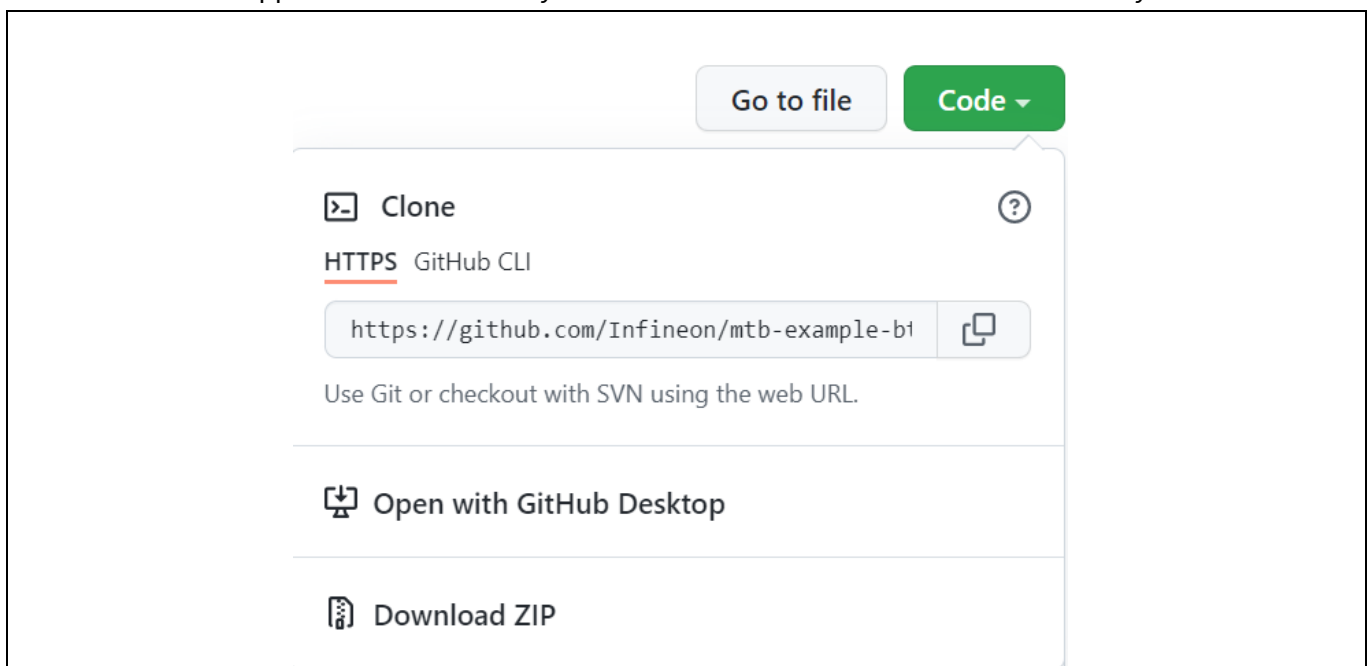

Figure 9 Download code example repository from GitHub
1. Download the code examples repository as a zip file by going to the mtb-example-btsdk-ble-findme and using the clone or download option, as shown in Figure 9. Unzip the downloaded file to a location on your hard drive. This approach is beneficial if you are not familiar with the Git version control system.